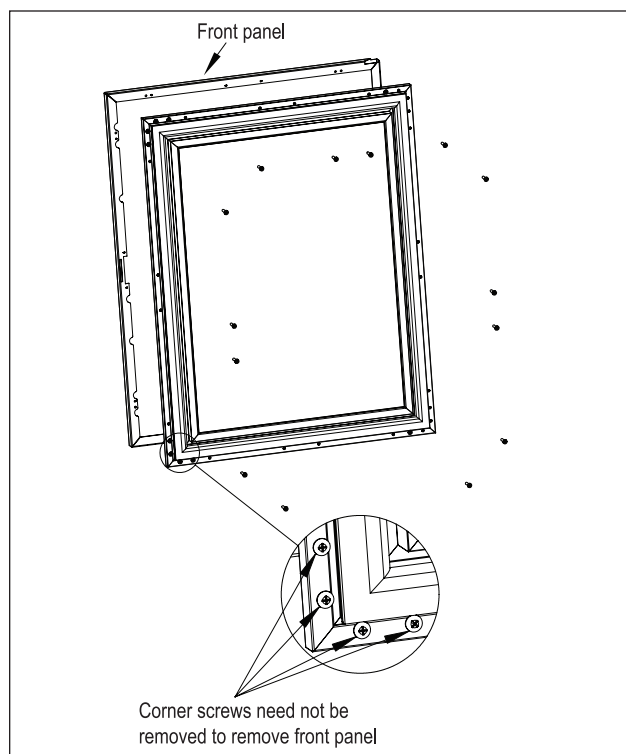

Figure 7: Removing Front Panel
7. Remove the front panel from the door assembly by removing the inner mounting screws, 4 per side, from the perimeter of the door assembly (Figure 7). Rotate the front panel 180°. The top becomes the bottom. Reattach using the same screws and mounting holes.